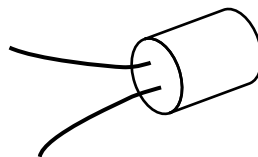

Fig. 2.1
- Both capacitors must have the same voltage rating. Each capacitor should have a cylindrical shape with both its leads emerging from the same end, as shown in Fig. 2.1.